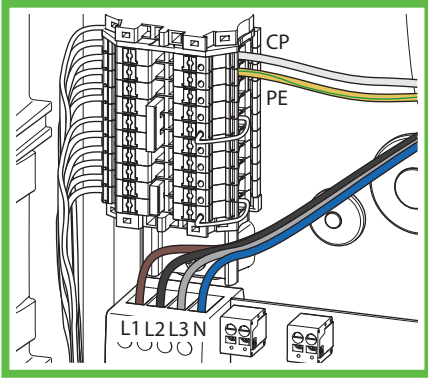

Abb. 20: Connecting the charging cable
- ▶ Connect the charging cable (Abb. 20).